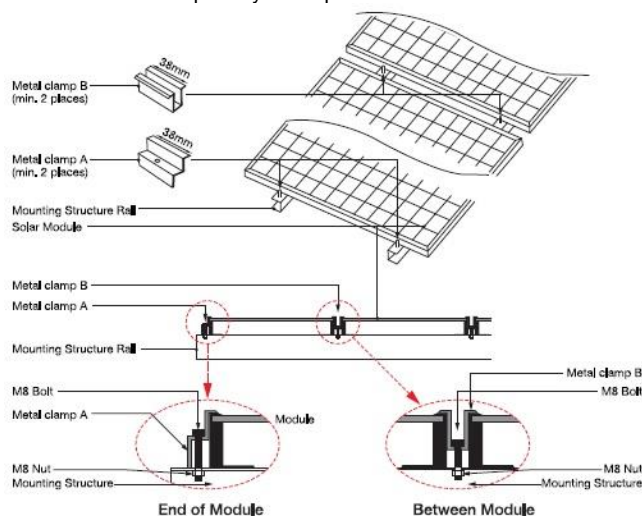

Figure 2. Mounting using clamps.
- If module clamps are used to secure the module, the torque on the clamp bolt should be around 8–10 Nm (Figure 2).